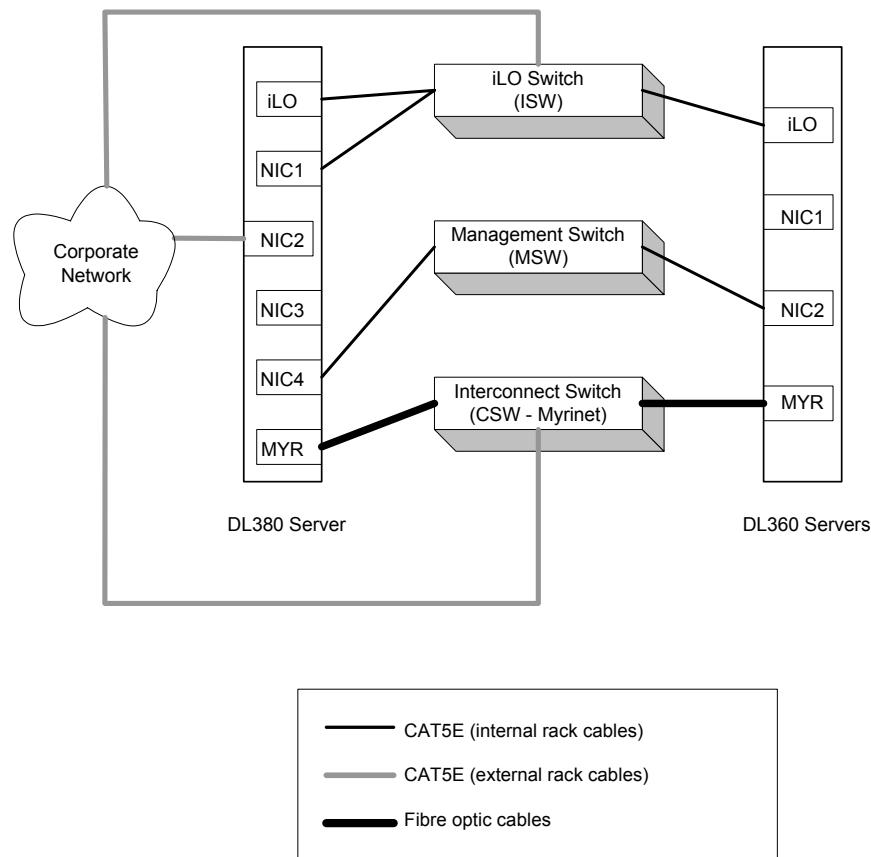

figure 3. network overview of Myrinet HPC cluster solutions
Figure 3 below provides a high level overview of the network cabling requirements for the **Myrinet** HPC cluster solutions only.
In figure 3 above, the DL380 server has one (1) iLO port, four (4) NIC ports, and one (1) Myrinet adapter connection. Both the iLO port and NIC1 port connect to the iLO switch (ISW). NIC2 is used to connect to an external network. NIC 3 is not connected but may be utilized to connect to an external network. NIC4 is used to connect to the management switch (MSW). The Myrinet adapter connection (MYR) is used to connect to the cluster interconnect switch (CSW). In this configuration, the cluster interconnect switch is a Myrinet switch and may vary in size depending on how many computer nodes the HPC solution contains.
Figure 3 above assumes you will be connecting your HPC LC Series solution to an external DHCP server. The DHCP server must be provided by the customer and be made available to the system before proceeding to use iLO. If you plan on using the control node and HPC cluster software to assign DHCP addresses, then you will need to cable the system accordingly.